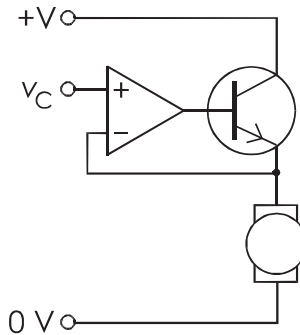

FIGURE 33.4 An op amp with negative feedback. Varying v_C sets the speed of the motor.
- **Op amp closed loop control:** The circuit in Figure 33.4 has negative feedback. The op amp monitors the voltage across the motor and acts to keep it constant, equal to the control voltage, v_C . This ensures constant current through the coils, keeping it turning at constant speed in spite of variations in the load.